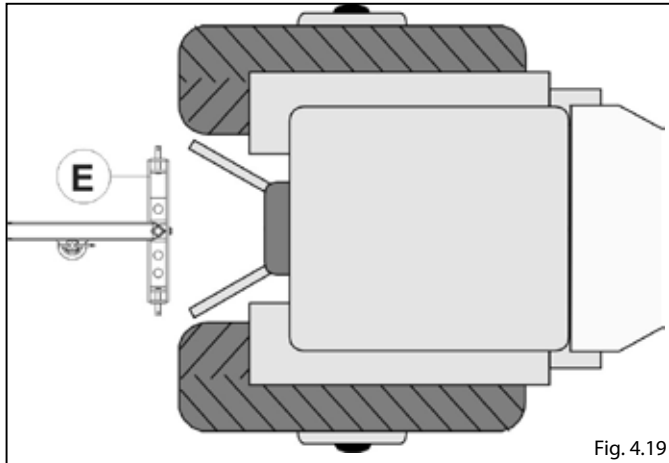

Fig. 4.19
- With the tractor, approach the towbar **E** in order to let the two longitudinal axles coincide at such a distance that the ends of the hoist arms are near the towbar (Fig.4.19).